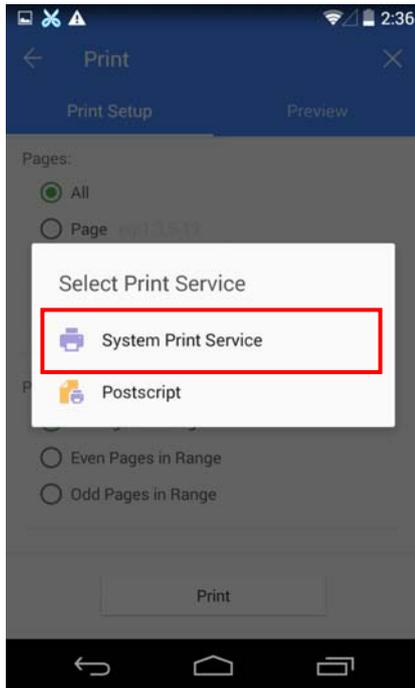

Figure 29
- 4.5 When the “Select Print Service” interface pops up, select “System Print Service”, as shown in Figure 29.